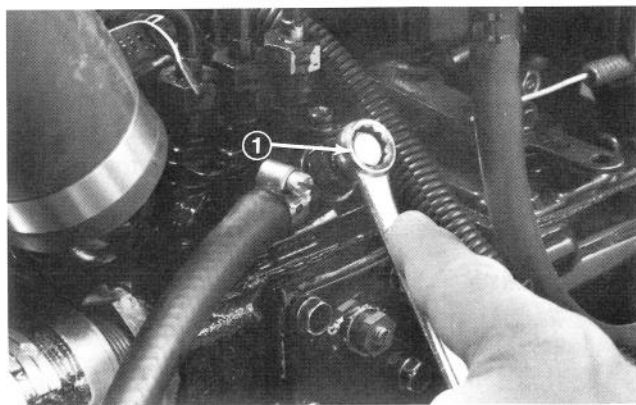

Figure 21
4. Open the air bleed screw on the fuel injection pump (Fig. 21) with a 10 mm wrench.